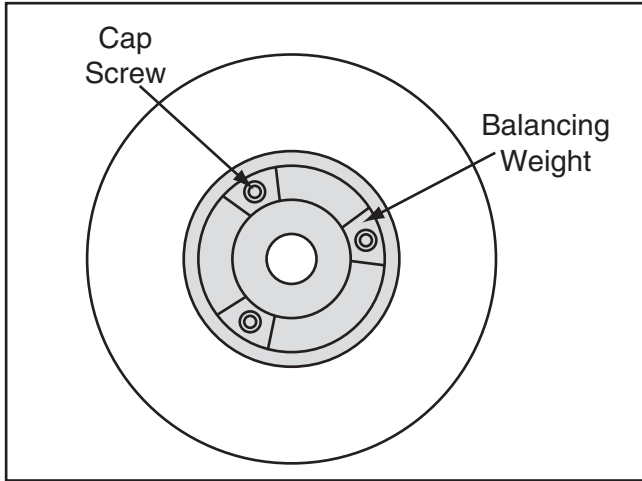

Figure 23. Balancing weights of the wheel flange.
3. Remove the three wedge shaped balancing weights from the rear wheel flange (see **Figure 23**).
6. Install the remaining two weights so that they are an equal distance from the first weight and each other, as shown in **Figure 23**.